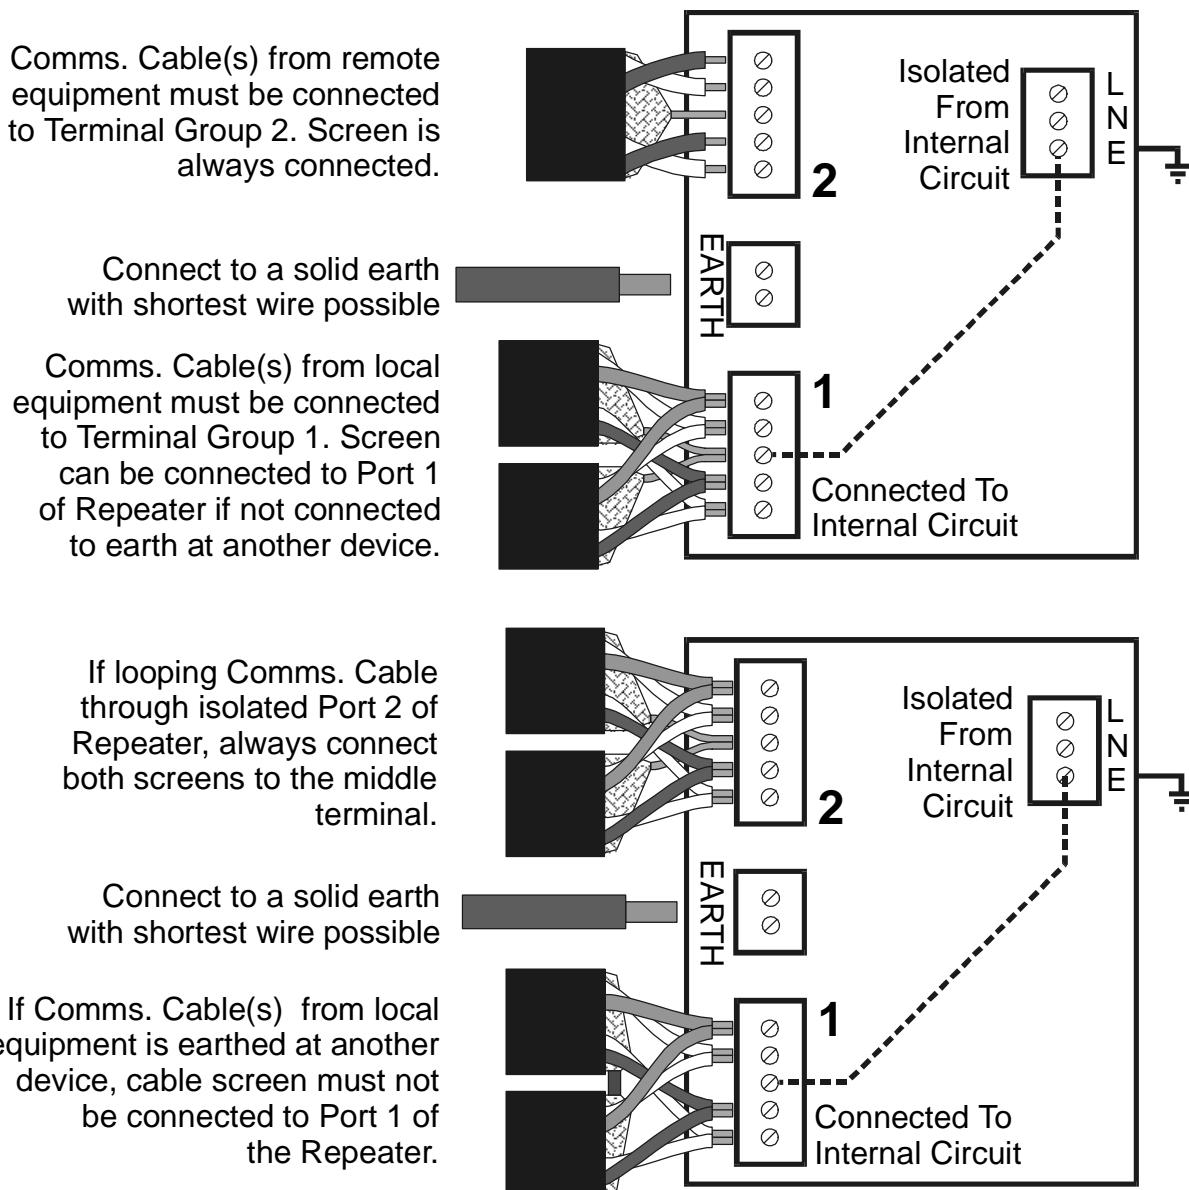

Figure A-11. GENII RPTR Repeater Module Connections.
**A-4.2.6. GENII RPTR Repeater Module.** The Repeater Module (Figure A-11) can be used with both the Genesis I and Genesis II Digital Controllers. The repeater's function is to rebuild each data byte before re-transmitting it.